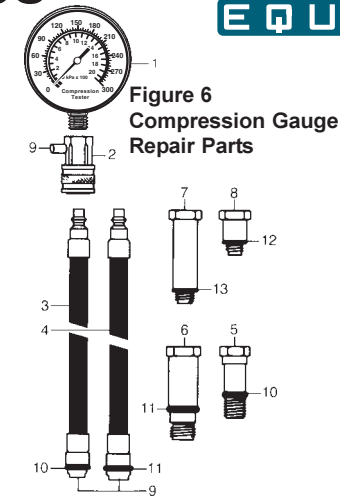

Figure 6
6. Disconnect the hose from the gauge. Screw the spark plug adapter hose (Item 3, Figure 6) into a spark plug well. Hand tighten only – DO NOT USE A WRENCH. See Figure 4.
NOTE: On engines with long reach plugs, use the long reach adapter (Items 5 and 6, Fig. 6). Do not use the adapter in short reach holes – it may hit the top of the piston and damage the engine.